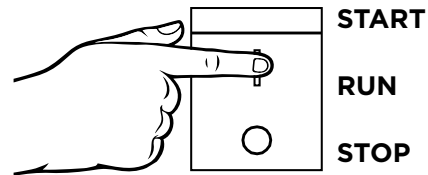

Figure 11 - Engine Control Switch - START
- a. **Electric Start:** Push and hold the engine control switch in the **START** position until the engine starts. Once the engine starts, release the engine control switch; the switch will automatically move into the **RUN** position (see Figure 11 below).